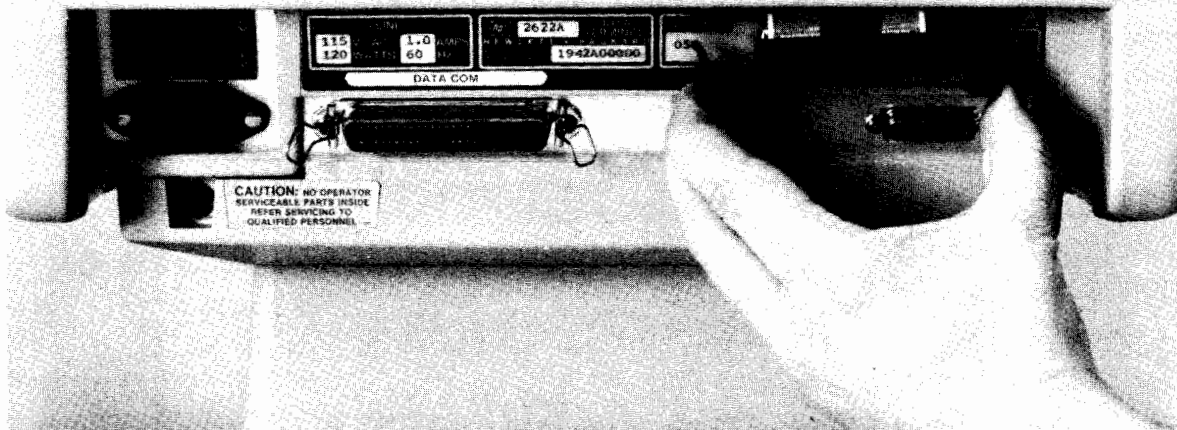

Figure 9-2. Removing the Battery
1. Grasp the battery support at points A and B as shown in figure 9-2.